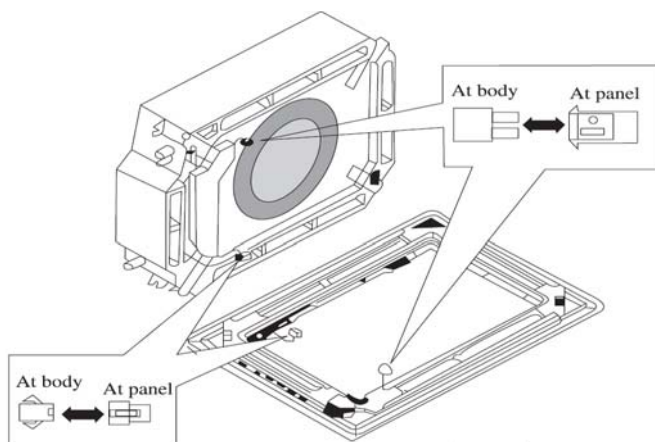

Fig.24
2. If gap is still left between the ceiling and the panel after screwing the screws, readjust the height of the indoor unit body (Refer to Fig.24)